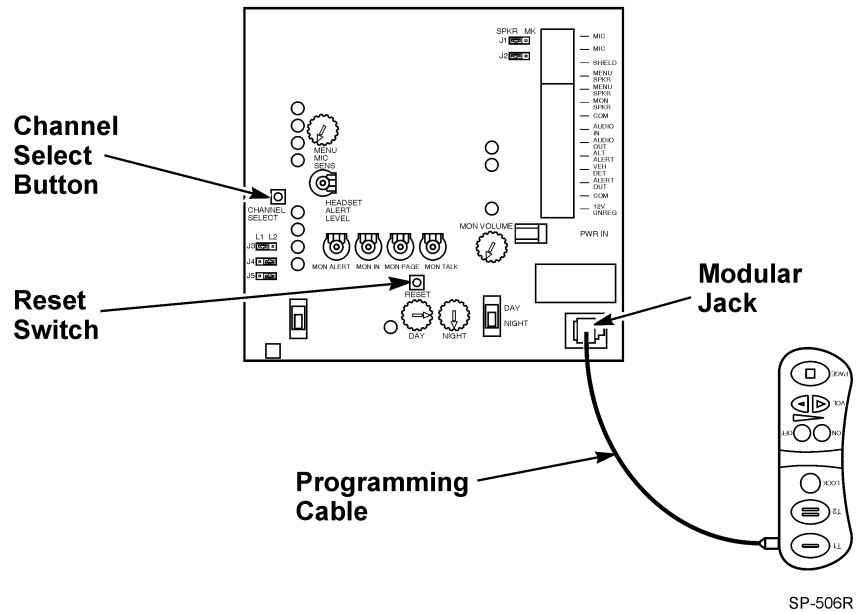

Figure 18.
3. With the transceiver pack turned OFF, plug one end of the programming cable into the transceiver pack programming jack. See Figure 18.
4. Plug the other end of the programming cable into the base station programming jack. See Figure 18.